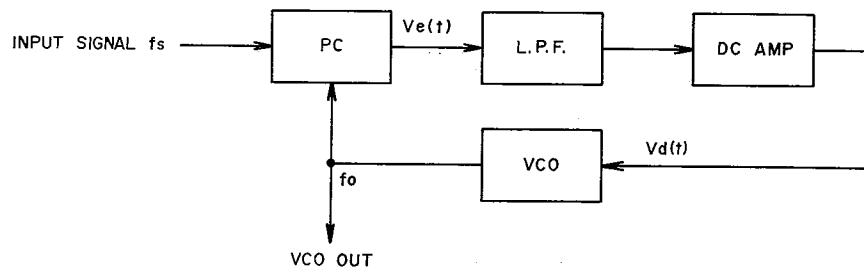

Fig. 13 PLL Circuit
PLL circuit is a kind of feedback circuit and is comprised of a Phase Comparator (PC), a Low Pass Filter (LPF), a Direct Current Amplifier (DC Amp.), and a Voltage Control Oscillator (VCO) as shown in Fig. 13. The PC compares input signal f_s and VCO oscillator output and generates the difference in signal voltage $Ve(t)$ proportionately to this phase deviation. This $Ve(t)$ passes LPF and the DC Amp. and becomes control voltage. This control voltage supplied to VCO and VCO oscillation frequency is DC controlled. When there is no input signal f_s , because there is also no $Ve(t)$, control voltage $Vd(t)$ becomes zero, and VCO maintains a *Free-running oscillation frequency. When a signal enters, VCO oscillation frequency F_o is controlled to narrow the difference between F_s by means of feedback as described above, and the PLL circuit assumes a synchronous condition. This is referred to as input signal lock. (In case the difference between F_o and F_s is too large, the differential signal frequency becomes high and is reduced at the LPF. However, because the VCO control voltage does not change, PLL will not stay within the *lock range).